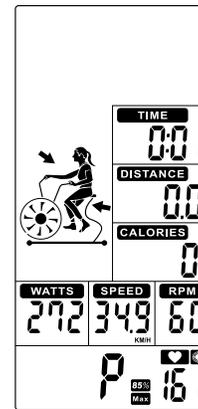

Figure 46
3. When the workout starts, the MAX HR icon will light up. The system will display 65% and 85% of your target heart rate. The TIME, DISTANCE, CALORIES, WATTS, SPEED, and RPM will calculate workout values (see Figure 46).